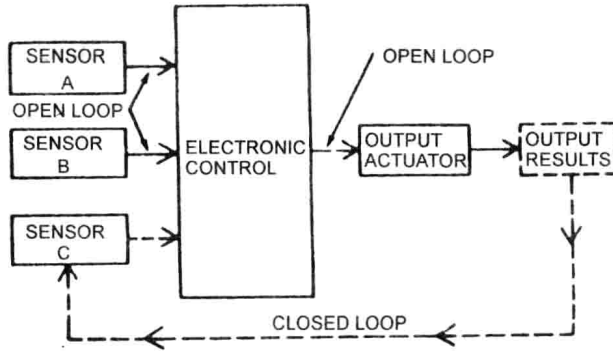

Fig. 1-6
Since a computer has this ability to be selective, engineers program a control system for two basic operating modes: open-loop and closed-loop, Fig. 1-6. The most common application of these modes applies to fuel-metering feedback control, although there are other open- and closed-loop functions①. In addition to these two basic modes, a practical fuel control system must handle other operating modes as operating conditions change. Control logic that is programmed into the microprocessor determines the operating mode according to the existing engine condition.
When a vehicle is first started, the control system is in open loop. The sensors provide information to the computer. The computer reads these signals and orders the output actuators to operate in a specific manner. The actuators obey the orders they receive without providing and feedback to the computer. This unidirectional operating sequence is shown by the solid lines in Fig. 1-6.
and actuators. These feedback signals tell the computer whether the output is too little, too much, or just right. In other words, the feedback signals regulate the output control. This cycle is summarized by the dotted line in Fig. 1-6.